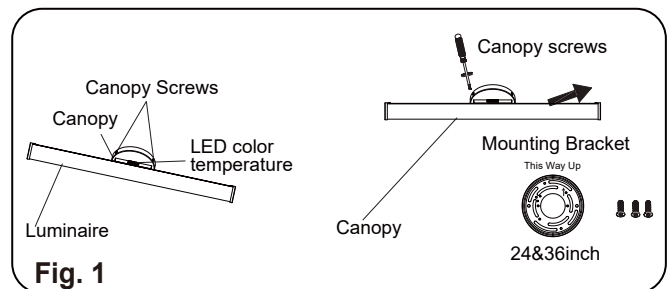
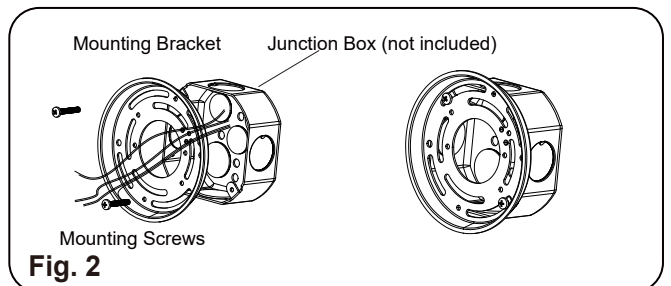

Fig. 1
Fig. 2
INSTALLATION & ASSEMBLY (Fig.1 & Fig.2)
4. Twist counter clockwise to loosen canopy screws (Fig. 1).
5. Remove mounting bracket from luminaire. Do not remove any other parts (Fig. 1).
6. Adjust mounting bracket so the arms are facing away from junction box. Pull power supply wires from junction box through the center opening of mounting bracket (Fig. 2).
7. Attach mounting bracket to junction box, make sure mounting bracket is flushed and leveled before tightening with mounting screws (Fig.2).